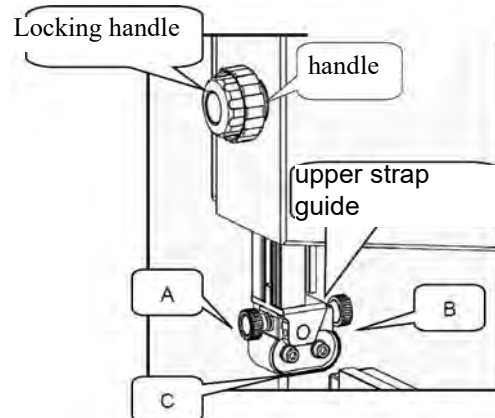
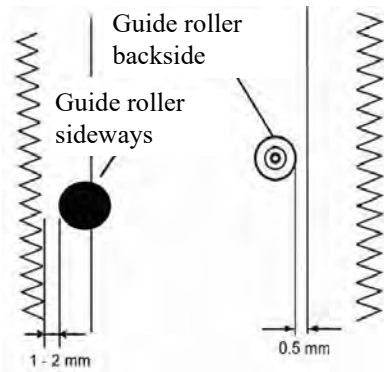
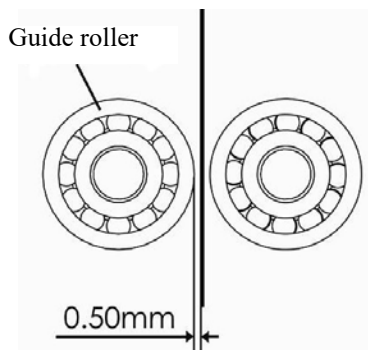

Fig. 51: Adjust the position of the upper strap guide
Fig. 52: Adjustment the guide bearings
Fig. 53: Adjustment the guide roller
Step 1: Loosen the saw blade guide wheel and use the dial to adjust the height. Then retighten the locking wheel (Fig.51).
Step 2: Loosen the screw (A, Fig.51) and adjust the position of the guide bearing so that the guide bearing is 1 or 2 mm (Fig.52) away from the teeth of the saw blade. Then tighten the screw (A, Fig.51) again.
Step 3: Loosen the screw (B, Fig.51) and set the back of the guide roller to 0.5 mm (Fig.53) behind the back of the blade. Tighten the knob (B, Fig.51) again.
Step 4: Loosen the screw (C, Fig.51) and set the guide bearing to a position 0.5 mm from the blade. Tighten the screw (C, Fig.51) again.